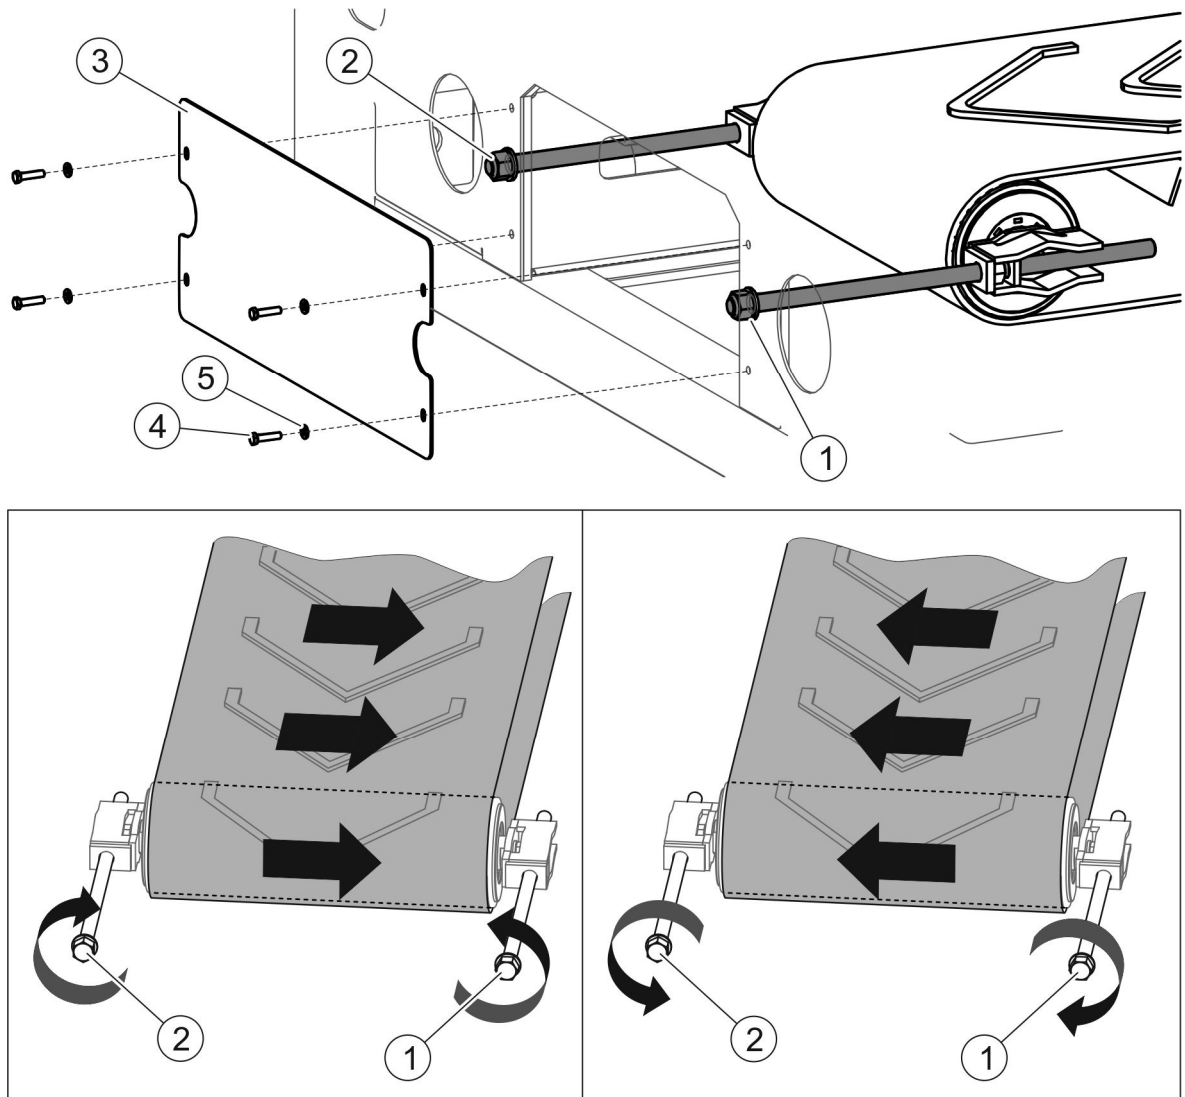

FIGURE 5.7 Adjustment of tightening roller
(1), (2) - adjusting screws; (3) - cover; (4) - bolt; (5) - washer
Before starting the conveyor belt adjustment (FIGURE 5.7), unscrew bolts (4) and remove cover (3). Start the sand spreader's engine. Activate "Unloading" function in "Counters" menu on the control panel. A detailed description can be found in section *UNLOADING*.
Conveyor belt is adjusted during conveyor operation by means of tensioning bolts (1) and (2) located on the front wall of the tank (FIGURE 5.7). Depending on shifting of conveyor belt (FIGURE 5.7), choose proper rotation direction of tensioning bolts (1) and (2). During the adjustment, make one turn of each bolt and wait for some time to see the effect of the adjustment. Repeat the activity until moving conveyor belt is positioned in the middle of the conveyor roller.
Conveyor belt may be tightened when the conveyor drive is switched off. Conveyor belt is tightened by means of bolts (1) and (2) located on the front wall of the tank (FIGURE 5.7). Turn both bolts (1) and (2) clockwise. To avoid shifting the belt sideways to the edge of the roller, turn both bolts by the same number of rotations.